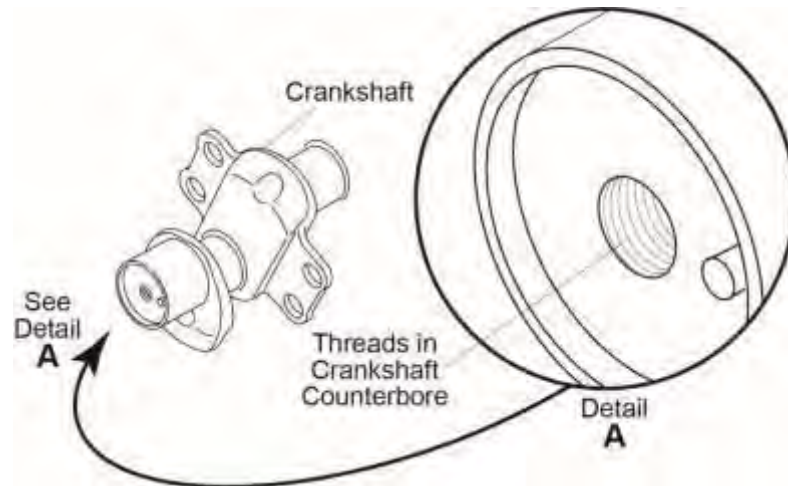

Figure 1
- (1) Use the correct sized undamaged bottoming tap for a 5/16-24 thread size. Do not use an oversized tap.
- (2) Install the tap into the recessed counterbore on the crankshaft.
- (3) Turn the tap as necessary to clean the threads.
- (4) Remove the tap.
- (5) Flush the crankshaft counterbore threads with mineral spirits (MIL-PRF-680) or equivalent or Stoddard Solvent, or equivalent solvent to remove any debris.
- (6) Dry the crankshaft counterbore threads with compressed air.
D. Examine the threads in the crankshaft counterbore (Figure 1). If the threads are worn, stripped, galled, or damaged, send the crankshaft to Lycoming Engines for repair.